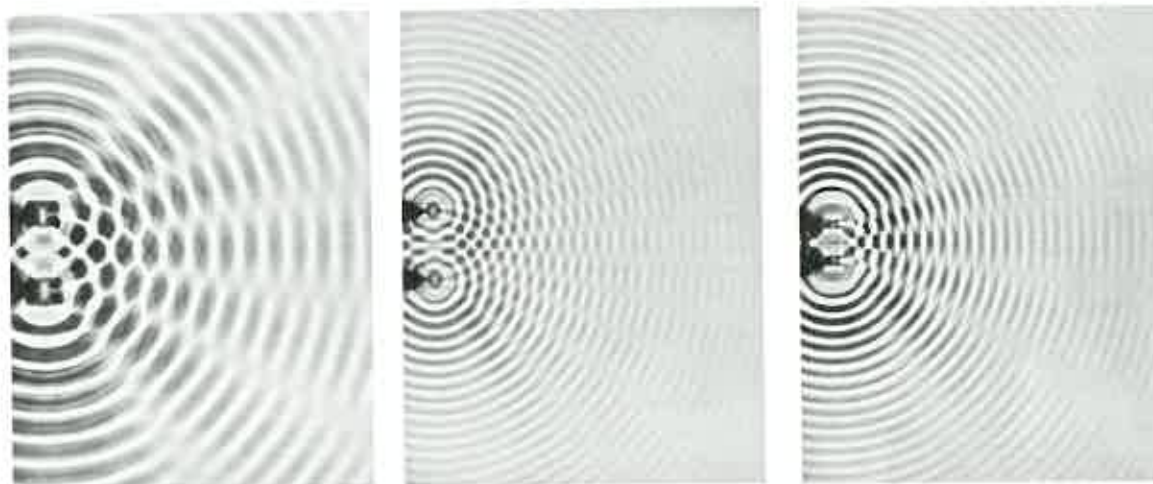

Fig. 31-12 Interference patterns of overlapping water waves from two vibrating sources.
Water waves can be produced in shallow tanks of water known as *ripple tanks* under more carefully controlled conditions. Interesting patterns are produced when two sources of waves are placed side by side. Small spheres are made to vibrate at a controlled frequency in the water while the wave patterns are photographed from above (see Figure 31-12). The gray “spokes” are regions of destructive interference. The dark and light striped
2. The wavelength of blue light is shorter than (nearly half) that of red light. Investigate the differences in the number of fringes for the water waves in Figure 31-12. The fringes of shorter wavelengths are closer together than those of longer wavelengths. So blue fringes would be closer together than red fringes.